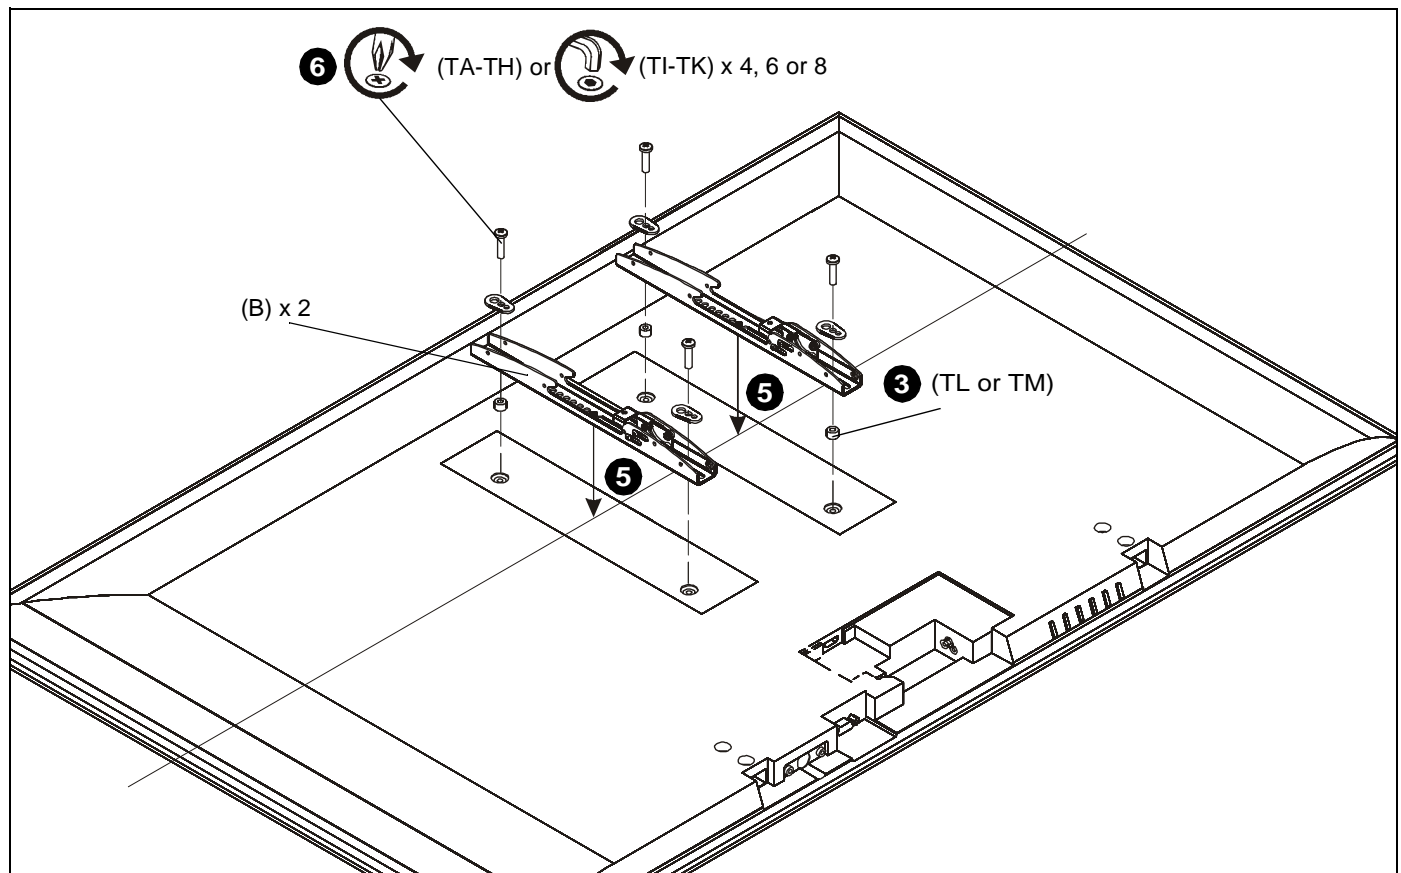

Figure 5
2. Select screw *diameter* by examining hardware (TA-TK) (4mm, 5mm, 6mm or 8mm) and comparing with mounting holes on display. (See Figure 5)
3. Select spacers: (See Figure 5)
- If mounting holes are not recessed and both uprights (B) can lay flat against display, then no spacers are required.
- If mounting holes are recessed, or if protrusions prevent uprights (B) from laying flat, then spacers (TL or TM) must be used.
4. Select screw *length*: (See Figure 5)
- Using your hand, insert **SHORTEST** length screw of selected diameter (TA, TD, TG or TI) through universal washer (TN), uprights (B), selected spacer (TL or TM), into display mounting hole. Do NOT thread screw into hole at this time.
- NOTE:** Universal washers (TN) are not needed if using M8 button head cap screws (TI, TJ or TK).
5. Place uprights (B) on display, ensuring: (See Figure 5)
- Center of uprights (B) are as close to the center of the back of display as possible after being installed. Center of bracket is indicated by the diamond-shaped hole.
6. Use selected screws and spacers to install two interface uprights (B) to back of display. (See Figure 5)